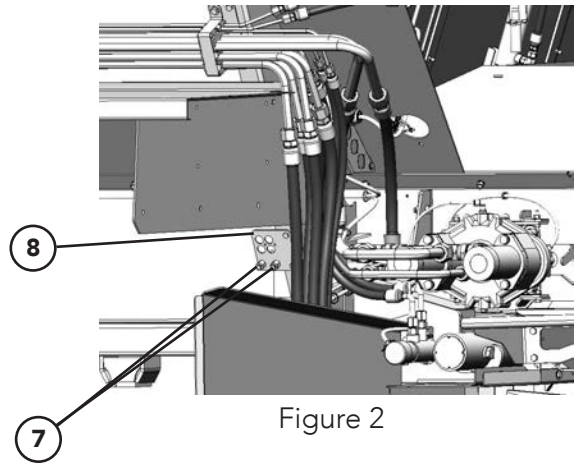

Figure 2
5. Figure 2 - Remove the Grease Lines (7) from Bracket (8).